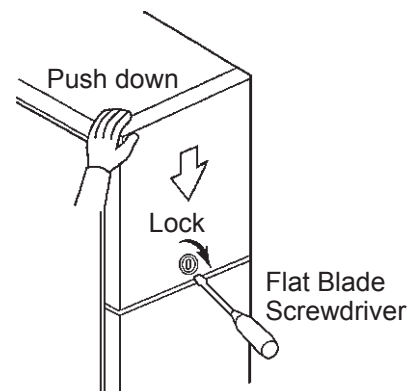

Fig. 6
6) Refit the Front Panel (Upper), and push down its top while turning the Hook clockwise. See Fig. 6.